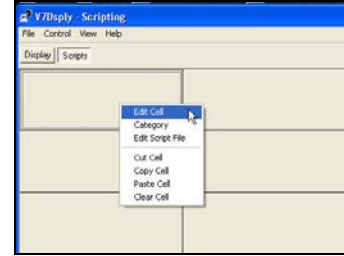

Figure 29: Edit Cell
2. On the *V7Dsply* scripting page, right click on an unused cell and select **Edit Cell**. Refer to **Figure 29**.